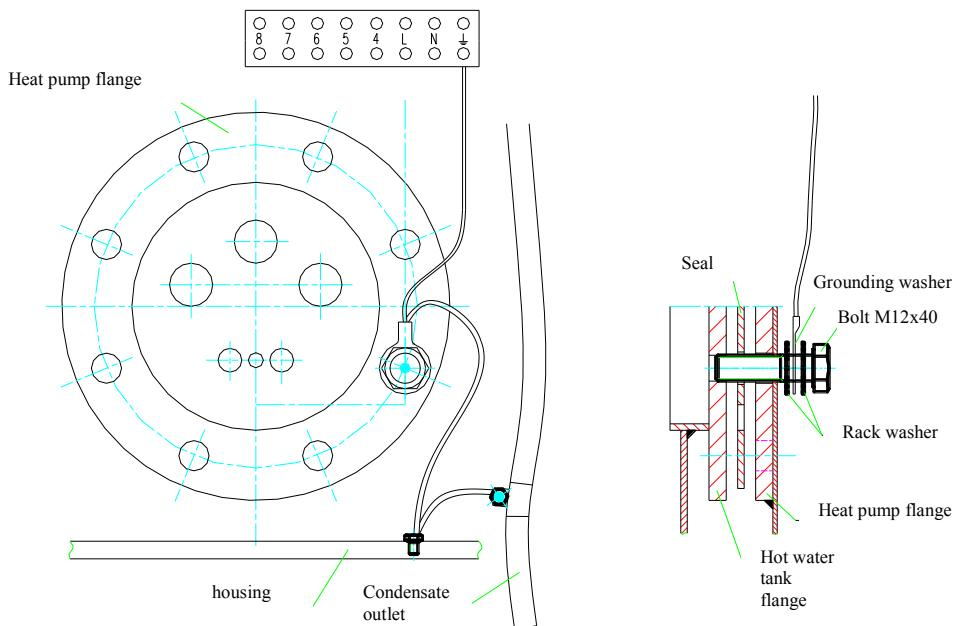

Figure 2: Grounding cable instalation
The necessary parts are preinstalled and loosely attached. The grounding cable is to be connected with a AMP-plug. The AMP-plug has to be connected according to drawing in figure 2.
**The grounding of the water heaters must be done according to the drawing in figure 2.**
1. Ground the water heater according to figure 2.